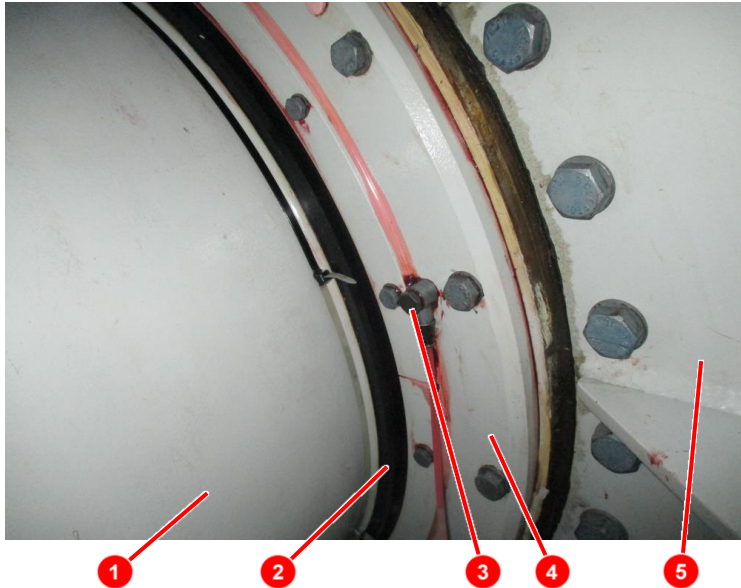

Fig. 1: Example: Rear rotor bearing E-70 E4
The use of grease which has leaked from the bearing (e.g. in the area of the V ring, Fig. 1, item 2) for the grease sample is prohibited.